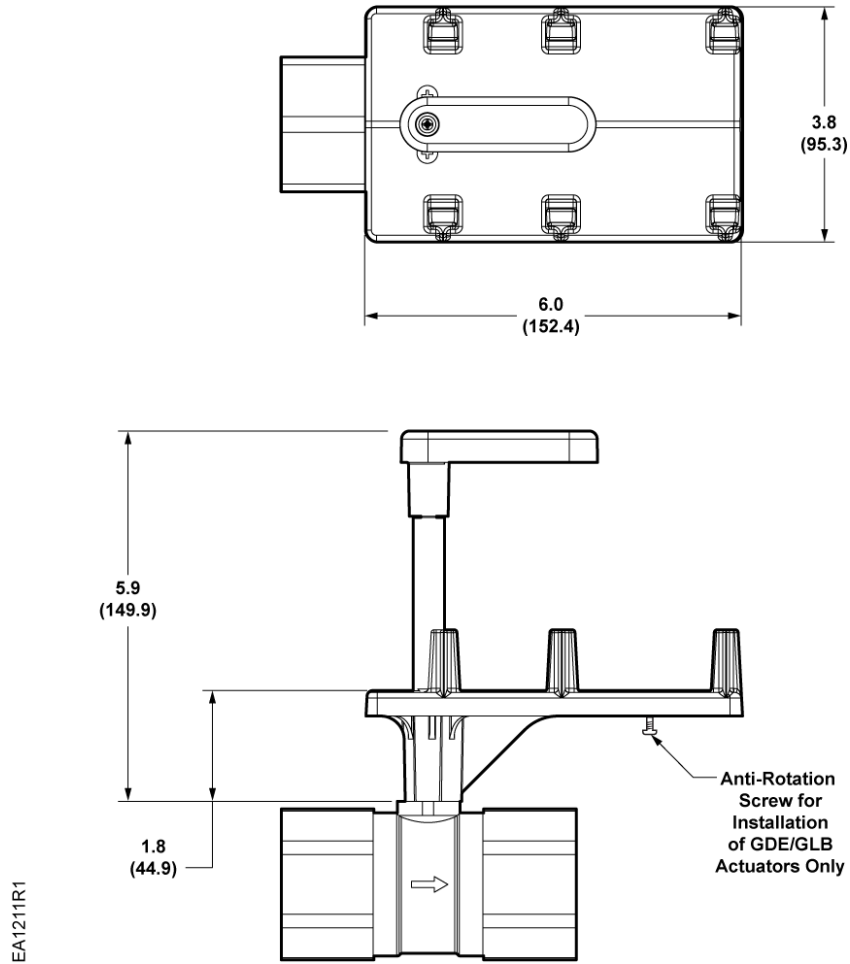
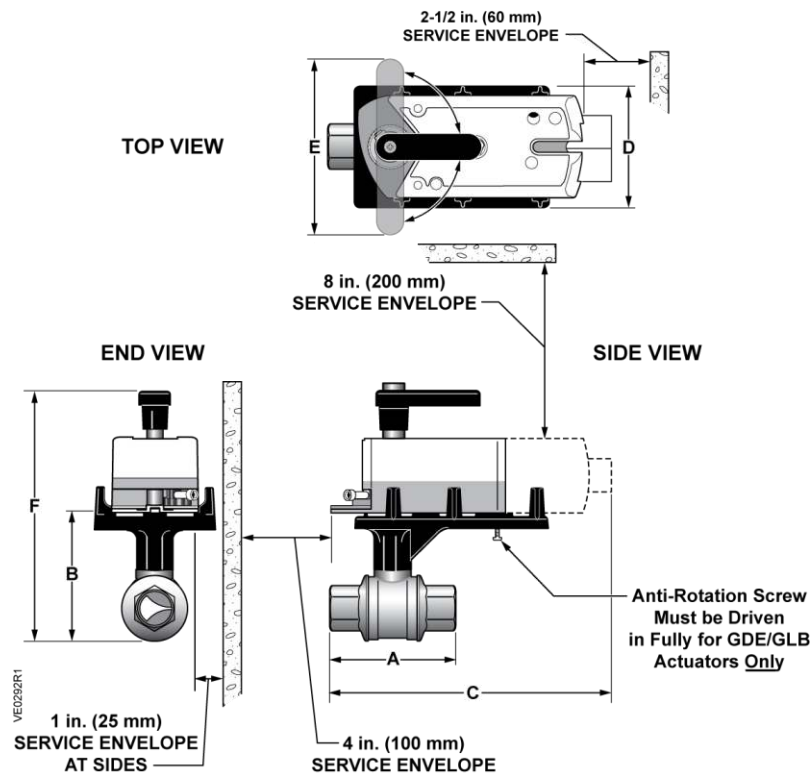

Figure 6. Ball Valve Bracket in Inches (Millimeters).
Figure 7. Two-way Ball Valve and Bracket with Actuator Dimensions in Inches (Millimeters).
6. For GDE/GLB actuators, an anti-rotation screw must be fully driven in. See Figure 6 and Figure 7.
NOTE: The GQD actuator will rest on the lowest step. The GMA actuator will rest on the second lowest step of the bracket. See Figure 6.